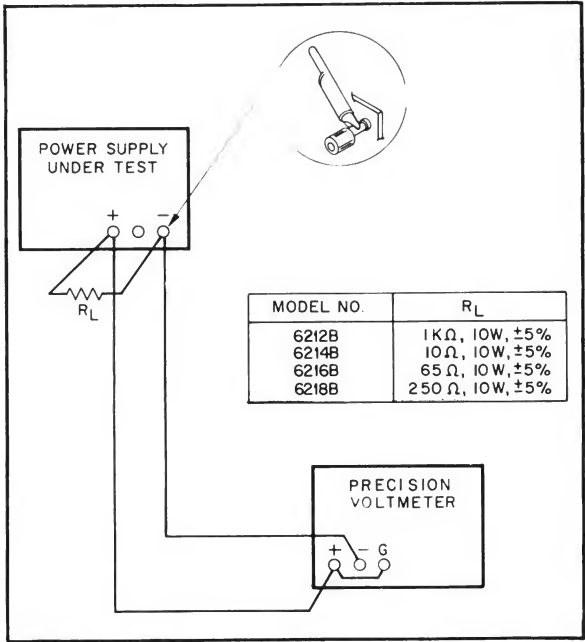

Figure 5-2. CV Load Regulation, Test Setup.
- a. Connect load resistor (R_L), indicated in Figure 5-2, across the output terminals of supply.
- b. Connect test setup shown in Figure 5-2.
- a. Connect the load resistance and differential voltmeter as illustrated in Figure 5-2.